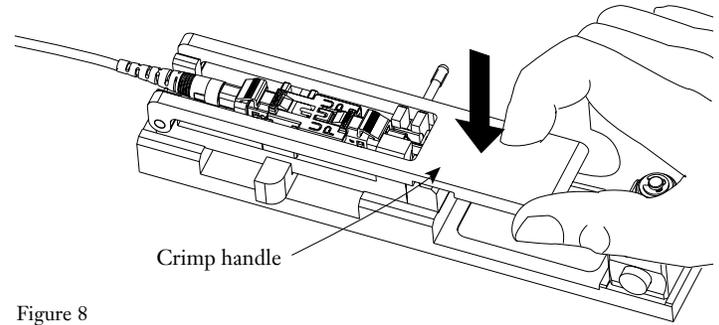

Figure 8
2.7 Carefully flip the crimp handle 180° until it contacts the crimp tube. Push down firmly to crimp (Figure 8). The tool cannot over crimp the connector.